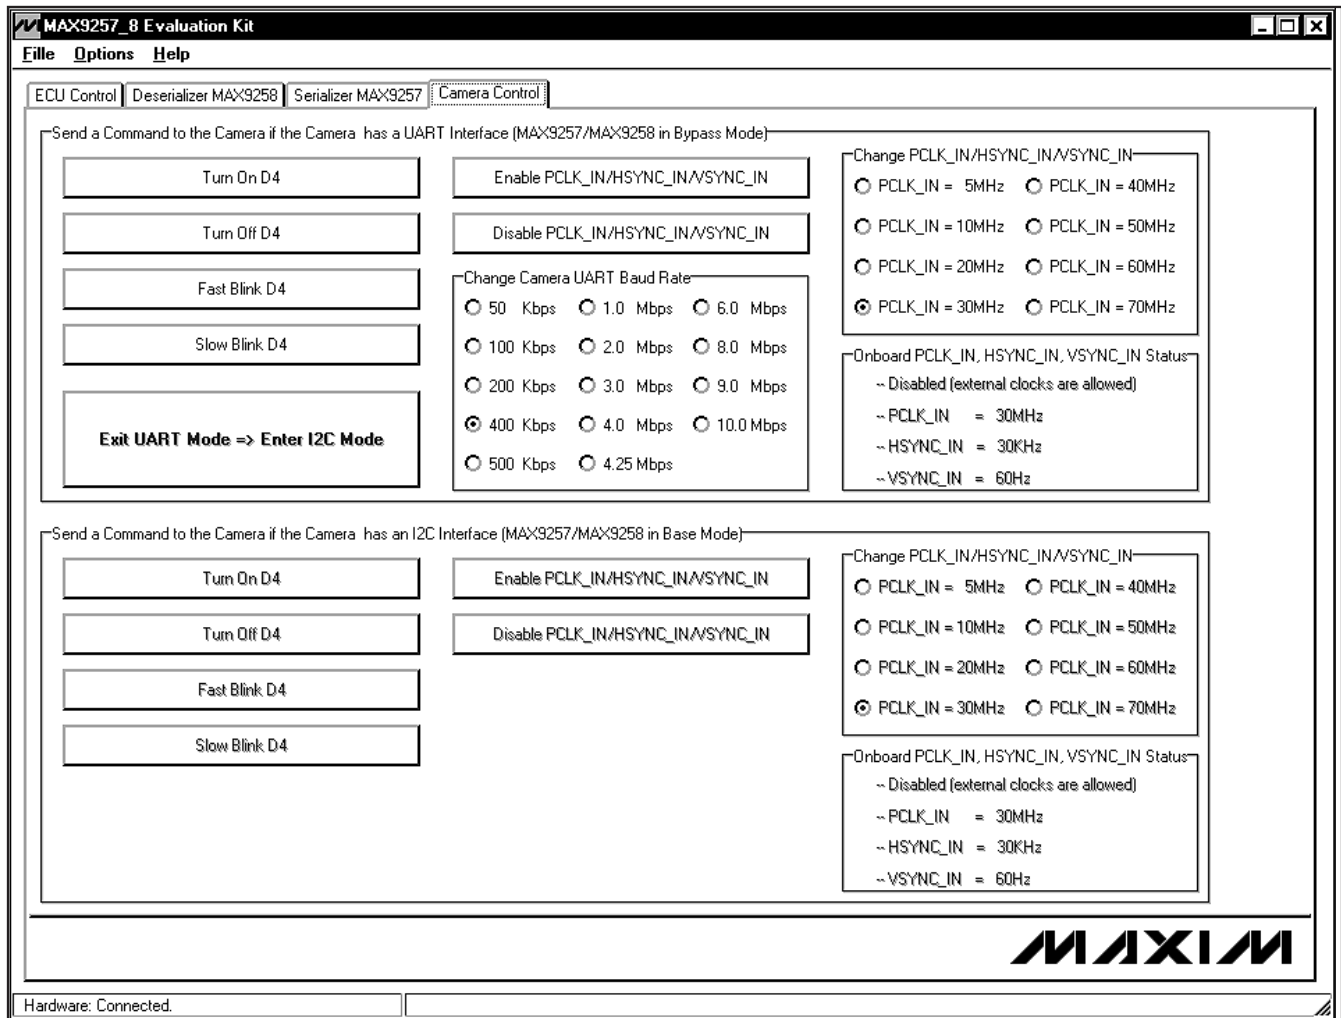

Figure 6. MAX9257/MAX9258 Evaluation Kit Software—Camera Control Tab
- 23) Click on the **Camera Control** tab to move to the **Camera Control** tab sheet (Figure 6).
On the **Camera Control** tab sheet (Figure 6), the ECU can communicate to the emulated camera during a control-channel session.
- 10) Navigate to the **Camera Control** tab sheet (Figure 6). Press the **Turn On D4**, **Turn Off D4**, **Fast Blink D4**, and **Slow Blink D4** buttons, respectively, to verify that the ECU is communicating to the camera properly.
- 11) Navigate to the **Camera Control** tab sheet (Figure 6). On this tab sheet, all ECU commands to the camera follow this order in one control-channel session:
- Navigate to the **Camera Control** tab sheet (Figure 6) and press the **Exit UART Mode => Enter I²C Mode** button (this button is available only when CTO is not equal to 0).